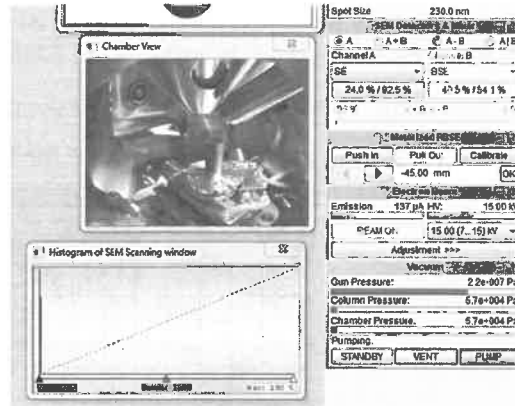

Figure 6. Pumping Chamber
- f. Load sample(s). Use minimal force on stage set screws. Ensure that the IR camera window is displayed and is live. Slowly close the stage door while monitoring the IR camera. Be very careful of large or unusual size samples. Apply gentle pressure on the chamber door when starting the pump and pump the chamber (Figure 6). This normally takes 1-3 minutes